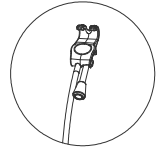

Fig.29
3. The length of the elastic strap can also be adjusted as shown in Fig. 28 and Fig. 29. Pull the strap out of the buckle, adjust the strap length and then set the strap back to the buckle tightly.